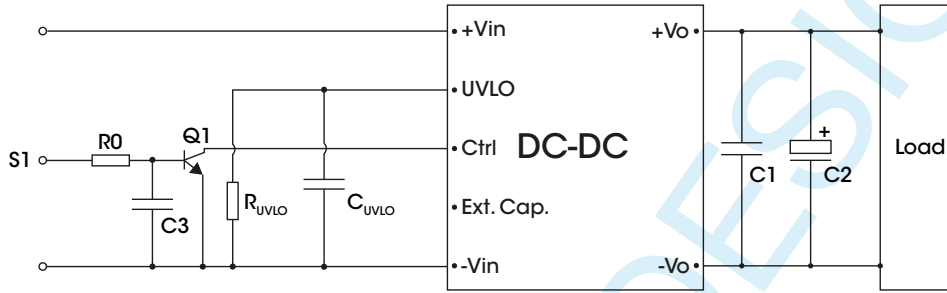

Figure 7. Recommended circuit for Ctrl negative logic
4. Recommended circuit for Ctrl negative logic refer to Fig. 7.